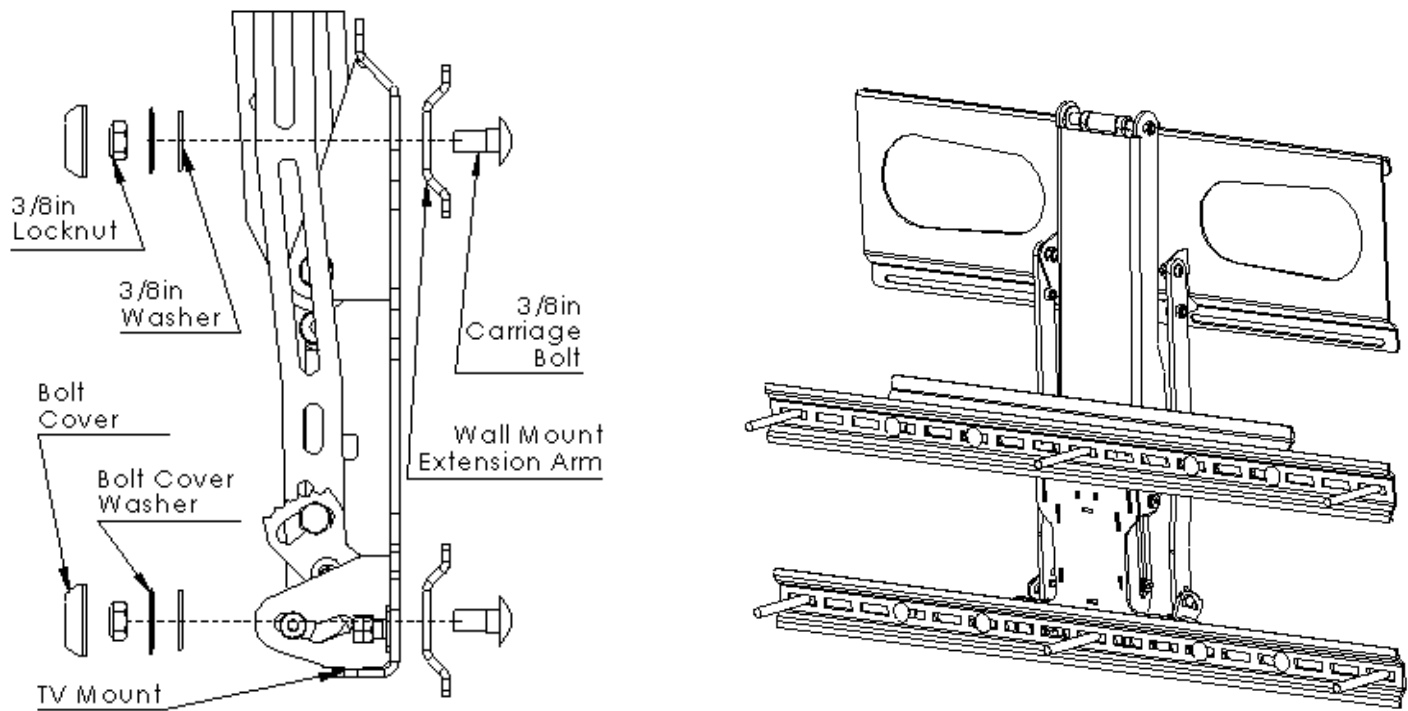

Figure 2 Wall Support Assembly
9. To attach the Wall Support to the mount, put the 8 3/8in carriage bolts through the back of the Wall Support and through the mount as shown in Figure 2. Screw everything together with the 3/8in washer, Bolt Cover Washer, and 3/8in Locknut. Use a 9/16in box or socket wrench to tighten everything together. Maybe only tighten 2 bolts at first in case the level needs to be adjusted.